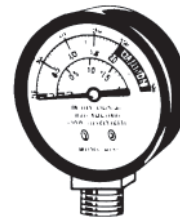

Fig. 4
2. PRESSURE GAUGE, PART NO. 72S. (See Fig. 4) Do not immerse your pressure gauge in water when cleaning the unit. The gauge does not require any maintenance other than periodically making sure that the opening of the gauge on the underside of the cover is open and free of any foreign matter. DO NOT USE YOUR UNIT IF